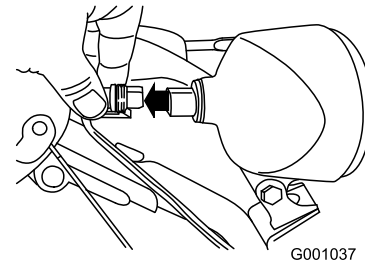

Figure 54
- Remove the wire connector from the back of the headlight (Figure 54).